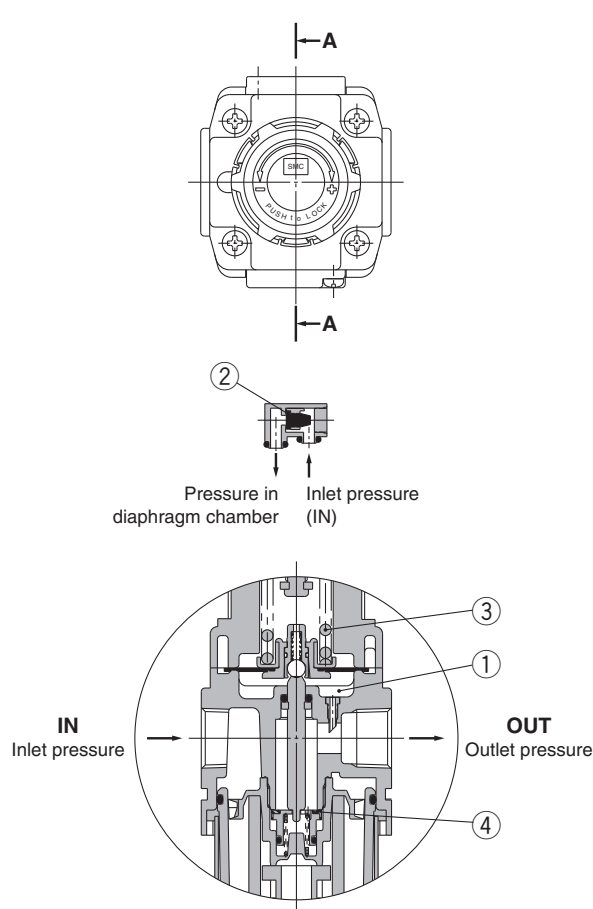
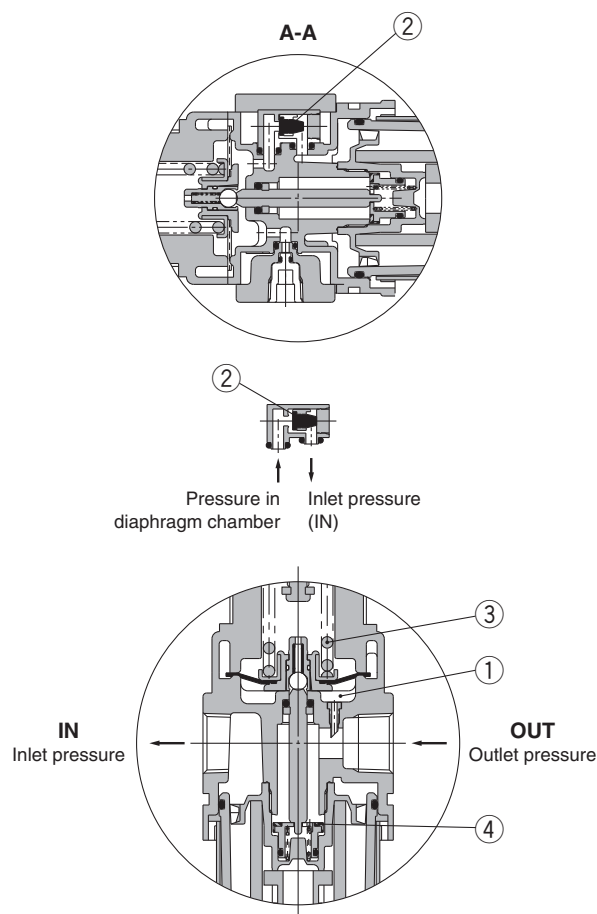

Figure 1 Normal
Figure 2 Backflow
When the inlet pressure is higher than the regulating pressure, the check valve operates as a normal regulator (Figure 1). When the inlet pressure is shut off and exhausted, any inlet pressure applied to the valve ① will be lost. The force for seating the valve ① is the valve spring force ② only. When the valve ① is opened using the outlet force, the outlet pressure will be exhausted at the inlet side (Figure 2). When the set pressure is 0.15 MPa or less, the valve ① may not open due to the valve spring ② force.
When the inlet pressure is higher than the regulating pressure, the check valve ② closes and operates as a normal regulator (Figure 1). When the inlet pressure is shut off and released, the check valve ② opens and the pressure in the diaphragm chamber ① is released into the inlet side (Figure 2). This lowers the pressure in the diaphragm chamber ① and the force generated by the pressure regulator spring ③ lifts the diaphragm. The valve ④ opens through the stem, and the outlet pressure is released to the inlet side (Figure 2).